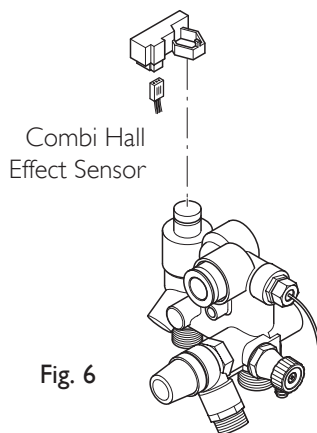

Fig. 6
6. Disconnect from the Hall Effect Sensor, DHWNTC and Water Pressure Switch (Figs. 6 & 7).
8. Connect the harness terminals to the relevant boiler components (see Figs. 6 & 7).